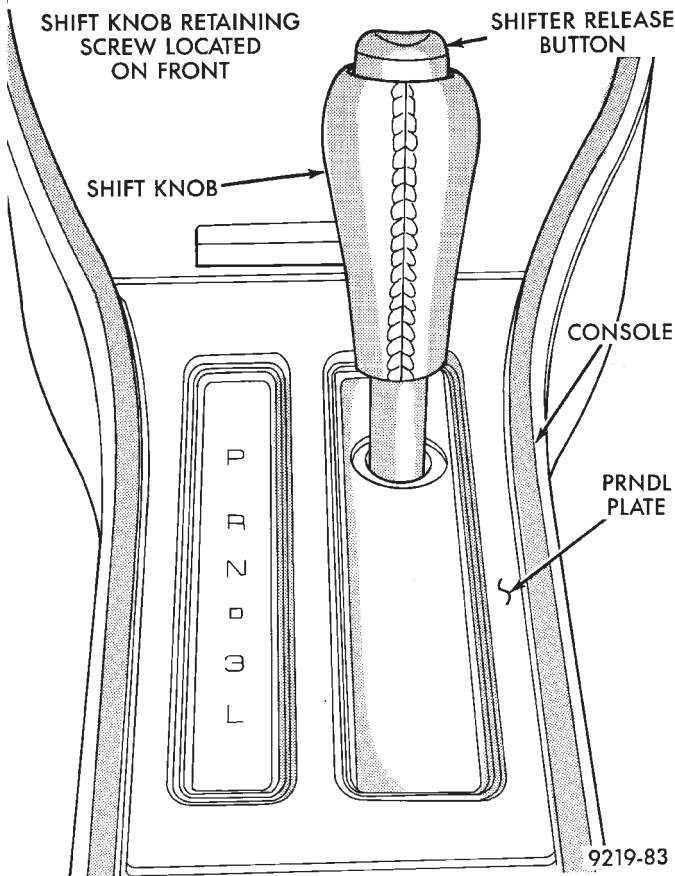

Fig. 2 Removing Shift Knob And PRNDL Plate
(1) Turn the ignition switch to the ACCESSORY position. **The Interlock System will not adjust properly if the ignition switch is in the LOCK position.**
(2) Remove the shift knob to shifter retaining screw and shift knob from shifter (Fig. 2). Leave the shifter release button in shifter handle.
(3) Remove the PRNDL plate (Fig. 2) from the center console. PRNDL plate is removed by gently prying between plate and console with a screw driver. Use care so not to damage plate or console assembly.
(8) Install the PRNDL plate (Fig. 2) back into the center console.
(9) Install the shift knob onto the shifter assembly. Install the shift knob to shifter retaining screw and torque to 3 N•m (25 in. lbs.) (Fig. 2).
(10) After adjusting the interlock system, perform the interlock system operation check. See Interlock System Operation Check in this section of the service manual.